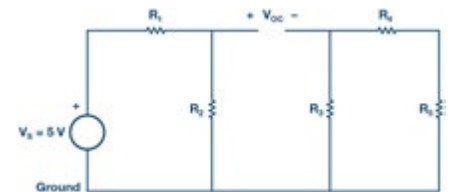

Figure 4: Measuring the Thévenin voltage.
c) Find V_{TH} : Remove the load resistance, R_L , and measure the open circuit voltage, V_{OC} , across the terminals. Use the voltmeter tool by connecting channel CA to the positive node of V_{OC} and connect channel CB to the negative node. V_{OC} will be the difference between CA volts and CB volts. This is equal to V_{TH} . See Figure 4.